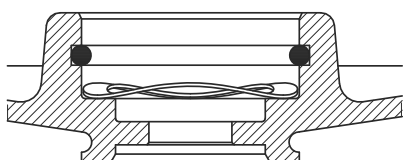

Fig. 27 Correct fitting of spring and O-ring
1. Push bearing (pos. 154) onto shaft (pos. 51).
2. Fit spring (pos. 158) and O-ring (pos. 159). See fig. 27.